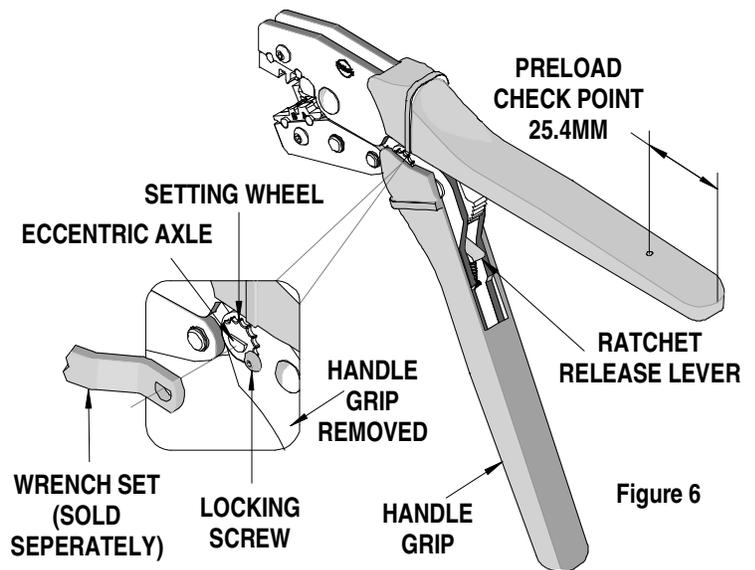

Figure 6
3. Make certain all pins; pivot points and bearing surfaces are protected with a thin coat of high quality machine oil. Do not oil excessively. The tool was engineered for durability but like any fine piece of equipment it needs cleaning and lubrication for a maximum service life of trouble free crimping. Light oil such as 30 weight automotive oil used at the oil points, every 5,000 crimps or 3 months, shown in Figure 6 will significantly enhance the tool life.
Should this tool ever become stuck or jammed in a partially closed position, **Do Not force the handles open or closed**. The tool will open easily by pressing the ratchet release lever. See Figure 6.
How to Adjust Tool Preload (See Figure 6)